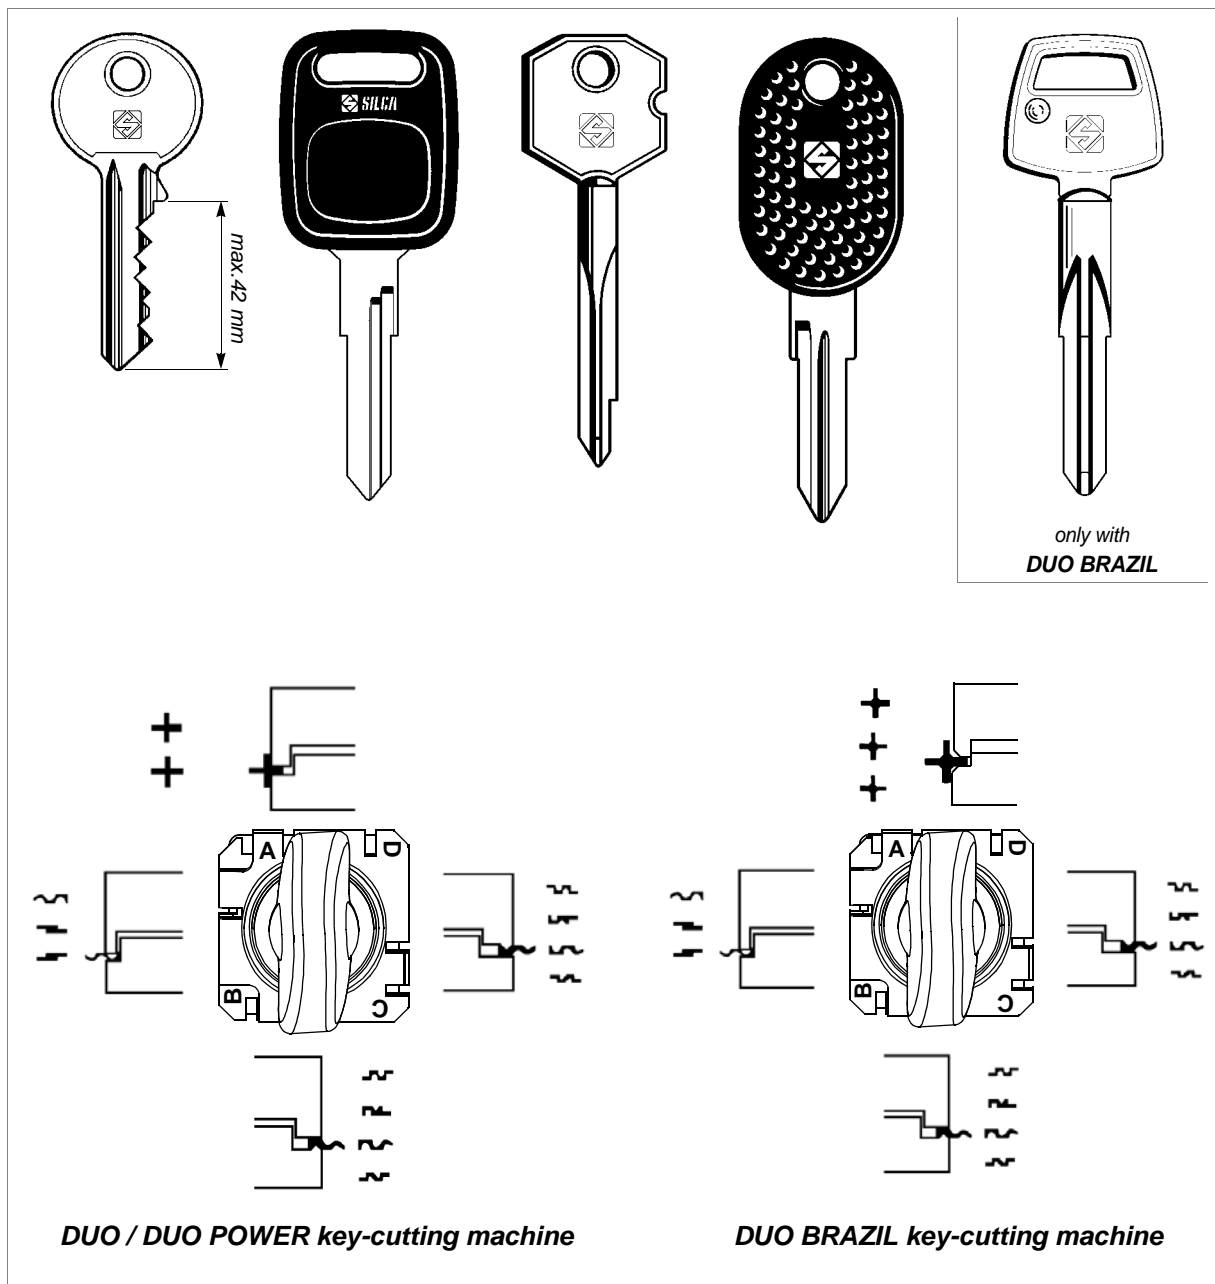

Fig. 30
- 1) Turn the clamps to find the appropriate side for securing the key (fig. 30).
- 2) Loosen the knobs (E) by a couple of turns.
- **Side A of the clamp:** for keys to be fitted on their backs, keys with double cuts without groove and cruciform keys (fig. 30);
- **Side B of the clamp:** for keys placed on their backs and having cuts with a depth of less than 3,9 mm (fig. 30);
- **Side C and D of the clamp:** for keys to be cut on both sides and locked on the groove (fig. 30).